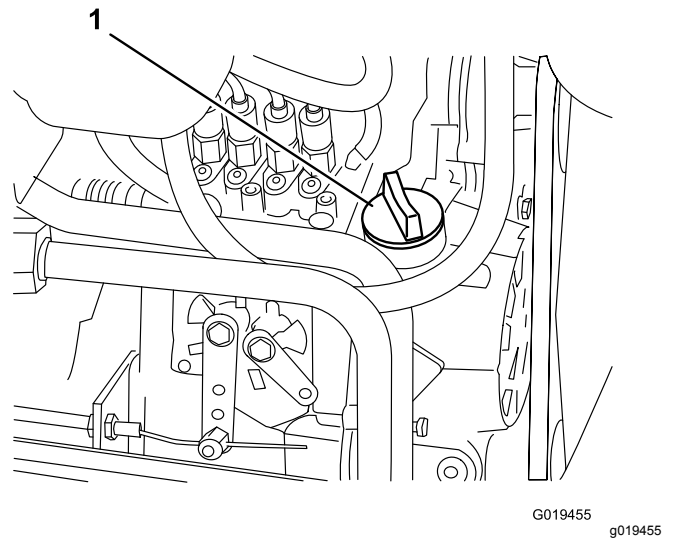

Figure 50
4. If the oil is below the safe range, remove the fill cap (Figure 50) and add oil until the level reaches the Full mark.